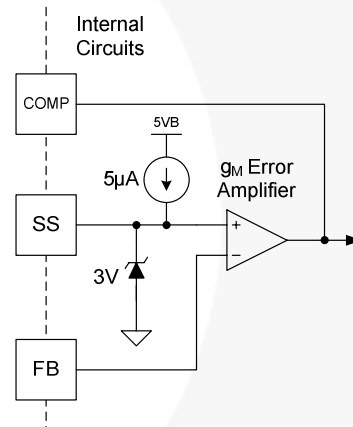

Figure 27. FAN9611/12 Error Amplifier Configuration
Implementing this function with a circuit external to the FAN9611/12 is straightforward because the error amplifier reference (the positive input) is available on the soft-start (SS) pin, as shown in Figure 27. In the FAN9611/12 architecture, the power of the converter is proportional to the voltage on the COMP pin, minus a small offset. The voltage on the COMP pin is monitored to determine the operating power of the supply. Therefore the voltage on the SS pin can be adjusted lower to achieve the desired lower output voltage.